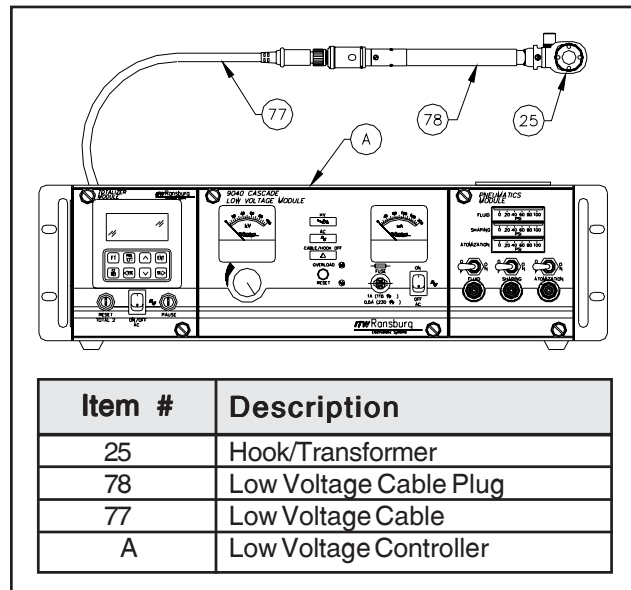

Figure 15: Hook/Transformer Test Setup Diagram
2. Connect the low voltage cable to a control unit and a cable plug assembly (refer to Figure 15).